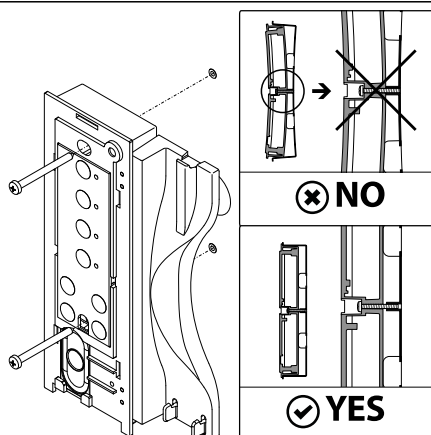

Fig. 8
3. As shown in **Fig. 8**, once the wires are connected, fix the intercom to the wall using a Phillips screwdriver and the two screws provided.
In order to avoid malfunctions, please do not over tighten the fixing screws shown in Fig. 8.